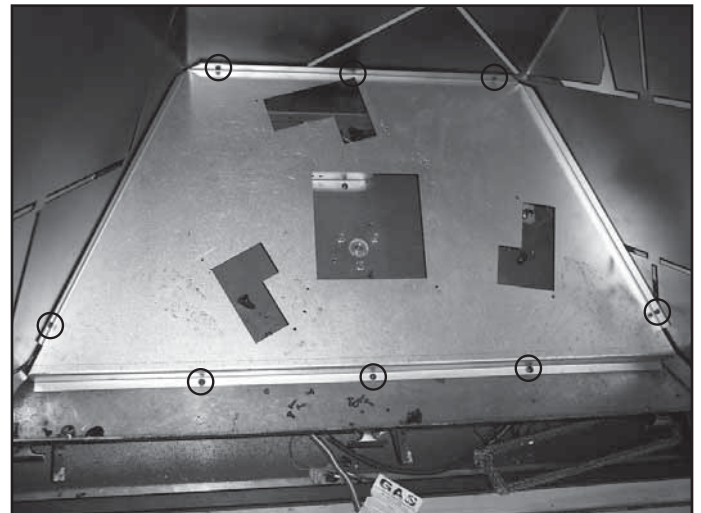

Figure 3.13 Remove Hearth Pan
- Remove hearth pan by removing 7 screws. See Figure 3.13.